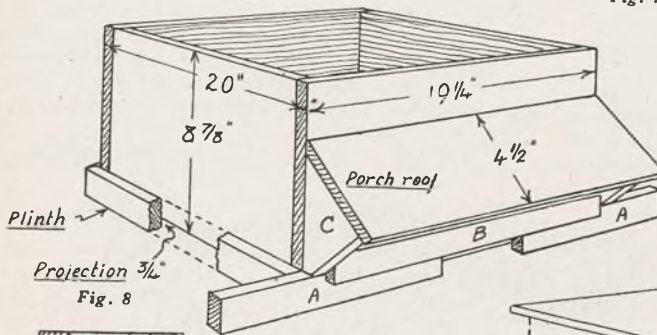

Fig. 8
can be dropped over on to the brood chamber. The body box, which holds the honey sections, is drawn at Fig. 8. Make the sides of $\frac{3}{8}$ in. wood and the front and back of $\frac{3}{4}$ in. wood. The latter pieces are $\frac{3}{4}$ in. less in height as seen, and spaced inwards to leave $14\frac{1}{2}$ ins. clear between on the inside.
- Fig. 8. Body box.